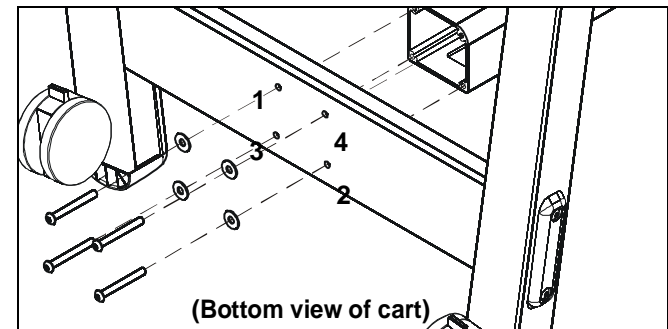

Figure 3
NOTE: Insert and turn screws in order shown (1, 2, 3, 4) in Figure 3.
5. Attach center post (E) to leg assembly using four 5/16-18 x 2-3/4" button head cap screws (M) and four 5/16" washers (P). (See Figures 3 and 4)